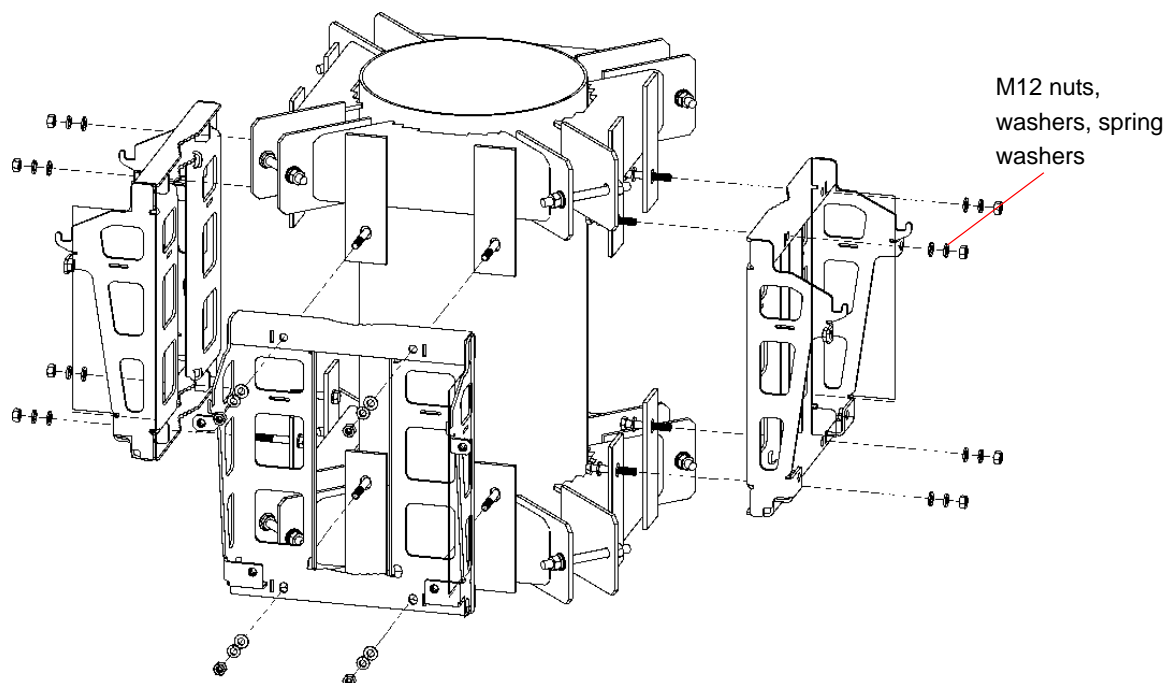

Figure 8: Mounting Three Carriages on the Pole
- b Attach one carriage to the flat slide of the bracket and use the threaded rods and supplied M12 washers, spring washers and nuts to fasten the carriage to the bracket (Figure 8). Apply torque of 53 [N*m] (465 [lbs*in]). Repeat for the other carriages.
- 3 Assemble the carriages on the brackets. Use the M12 nuts with washers and spring washers to fasten the carriage to the brackets (see Figure 8).